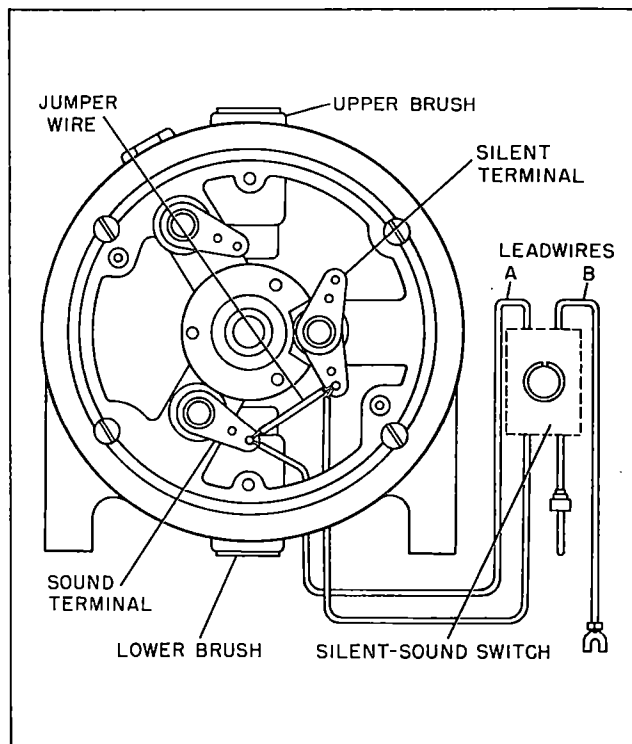

Figure Z-1. Converting Sound-Only Projectors to Silent-Sound Operation
b. Remove the motor brush housing (paragraph 8) to expose leadwire terminals as shown in figure Z-1. Connect jumper wire (B & H No. 430875) between the silent and sound terminal lugs as indicated.
c. Cut leadwires A and B (figure Z-1) as shown, and reconnect cut ends of these wires to the terminals of the silent-sound switch to complete the rewiring. Reinstall the motor brush housing.